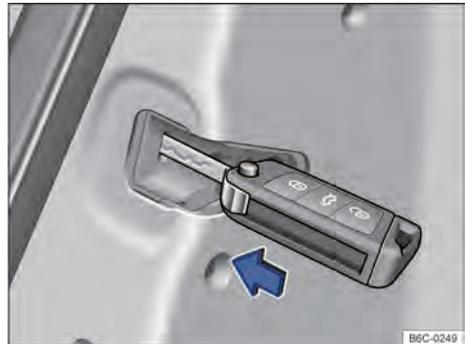

Fig. 54 On the doors, front right and rear: emergency locking of the vehicle with the metallic stem of the key.
- Insert the metal shaft of the wrench into the slot → Fig. 54 and press.